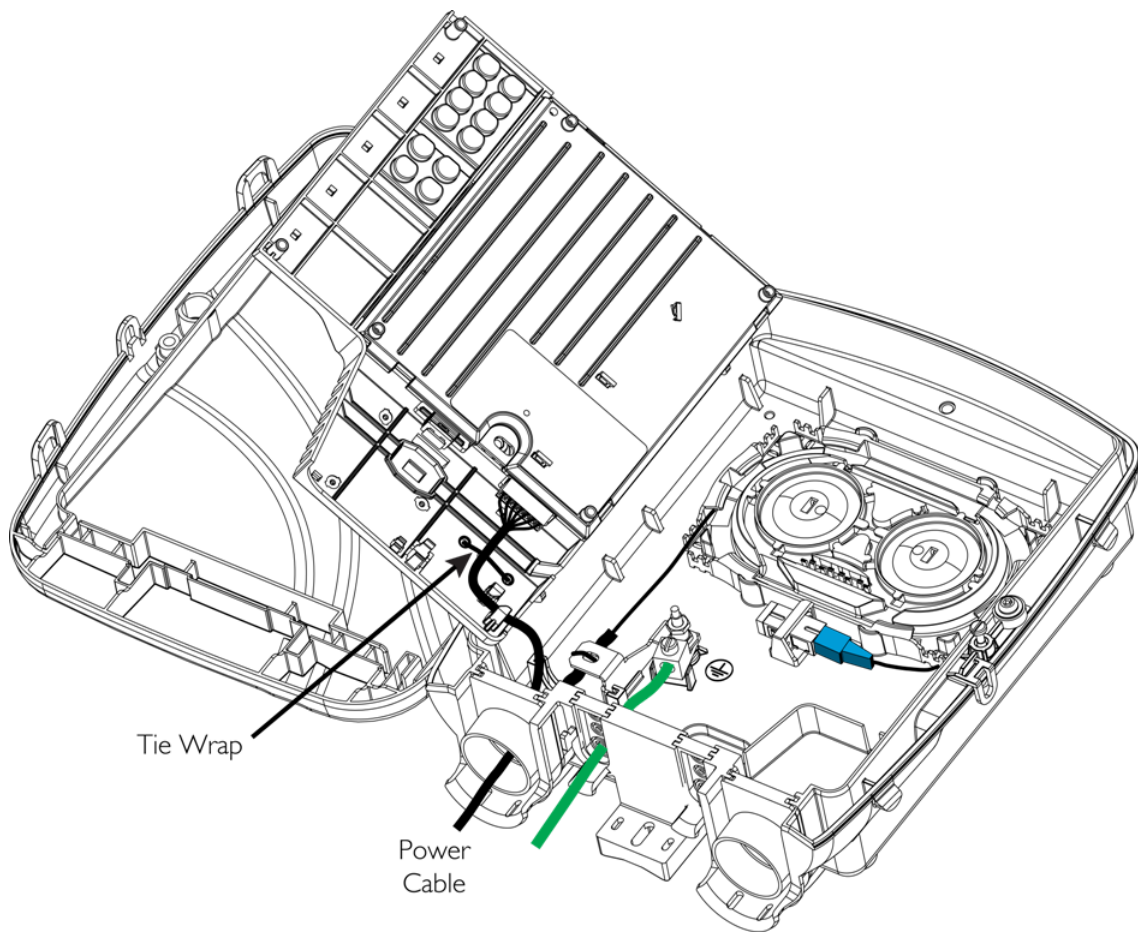

Figure 9: Plugging in the DC Terminal Block
3. Plug the terminal block into the DC power socket, as shown in Figure 9.